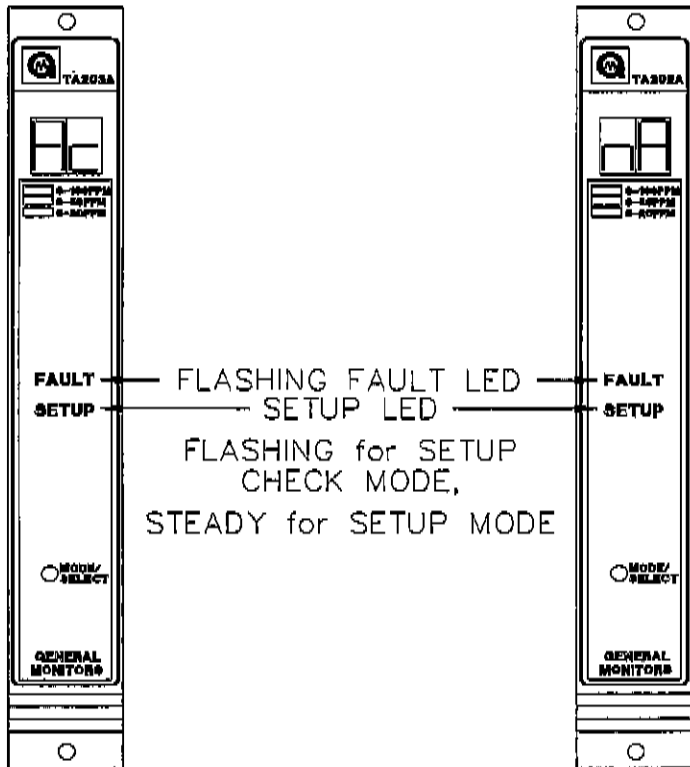

Figure 23
- After the A1 alarm options have been selected, the user will select the Fault/Inhibit option. The **FAULT** LED on the front panel will be flashing while the display indicates **Ac** or **nA** (figure 23). An **Ac** selection specifies that the Model TA202A will activate the Fault circuit while the unit is in the Inhibit Mode. An **nA** selection specifies that the Model TA202A will not activate its Fault circuit when the unit is placed in the Inhibit Mode (see section 5.3). An **nA** selection will not disable the Fault circuit, therefore, if a Fault occurs during the Inhibit Mode, the unit will activate the Fault circuit. Not Active is the factory default for this selection.